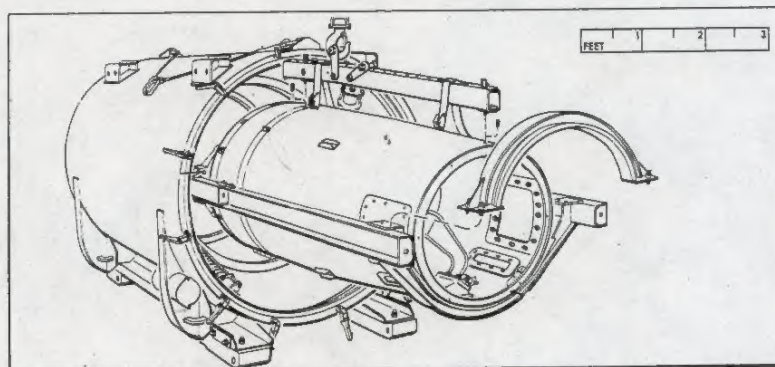

Figure 3-3. Warhead body section container.
- (1) The warhead body section is received in a metal end-opening container that has a gross weight of approximately 3,100 pounds (fig 3-3). The warhead body section contains an installed HE warhead.